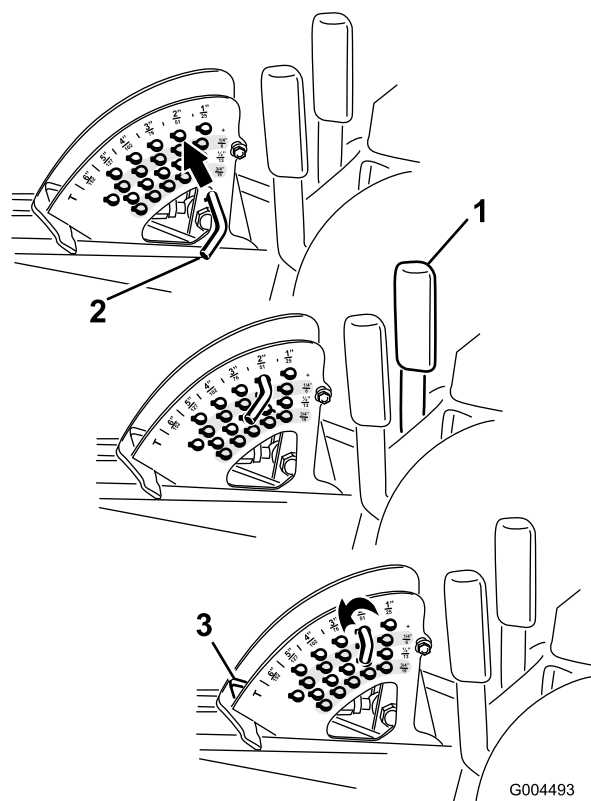

Figure 24
Note: To lock the mower deck in a raised position, raise the deck past the 6 inch (15 cm) position, remove the height of cut stop pin (refer to Adjusting the Height-of-Cut), and place the pin in the 6 inch (15 cm) height-of-cut position (Figure 24).
1. With the engine running, pull back on the deck lift lever until the mower deck is fully raised and **release the lever immediately** (Figure 24).
2. To adjust, rotate the stop pin until the roll pin in it lines up with the slots in the holes in the height-of-cut bracket and remove it (Figure 24).
3. Select a hole in the height-of-cut bracket corresponding to the height-of-cut desired, insert the pin, and rotate it down to lock it in place (Figure 24).
Note: There are four rows of hole positions (Figure 24). The top row gives you the height of cut listed above the pin. The second row down gives you the height listed plus 1/4 inch (6 mm). The third row down gives you the height listed plus 1/2 inch (12 mm). The bottom row gives you the height listed plus 3/4 inch (18 mm). For the 6 inch (15.8 cm) position there is only one hole, located in the second row. This does not add 1/4 inch (6 mm) to the 6 inch (15.8 cm) position.